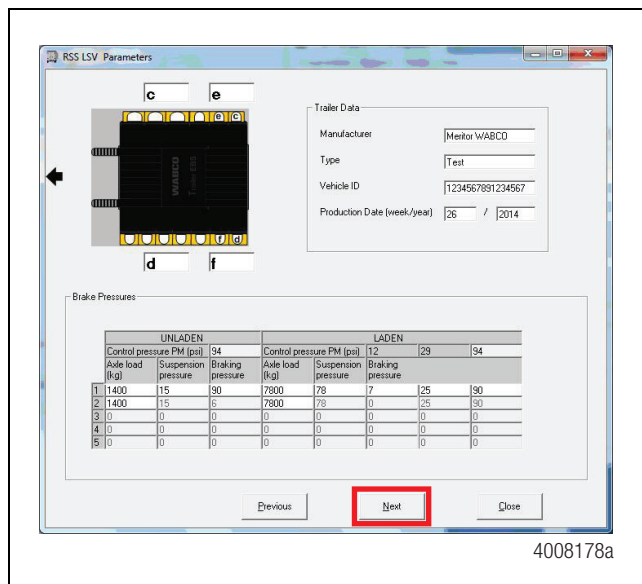

Figure 10
5. From the screen labeled **RSS LSV Parameters**, press the **Next** button at the bottom of the screen. There is no need to change the values if you are using the default settings. Figure 10.